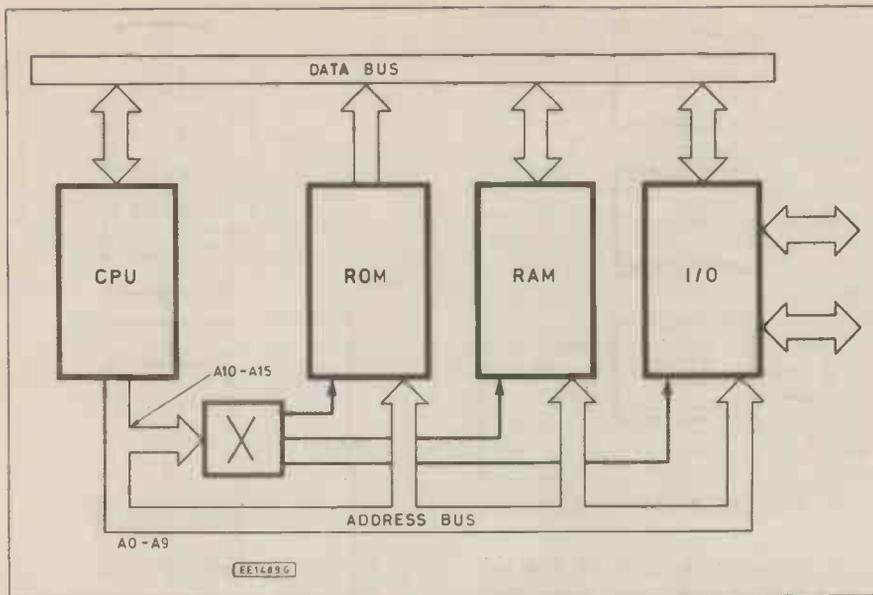

Fig. 9.4. See questions 10 and 15.
10. (3.2.5) The block marked "X" in Fig. 9.4 represents
15. (4.1.2) In the memory-mapped system shown in Fig. 9.4, the output signals from the block marked "X" are